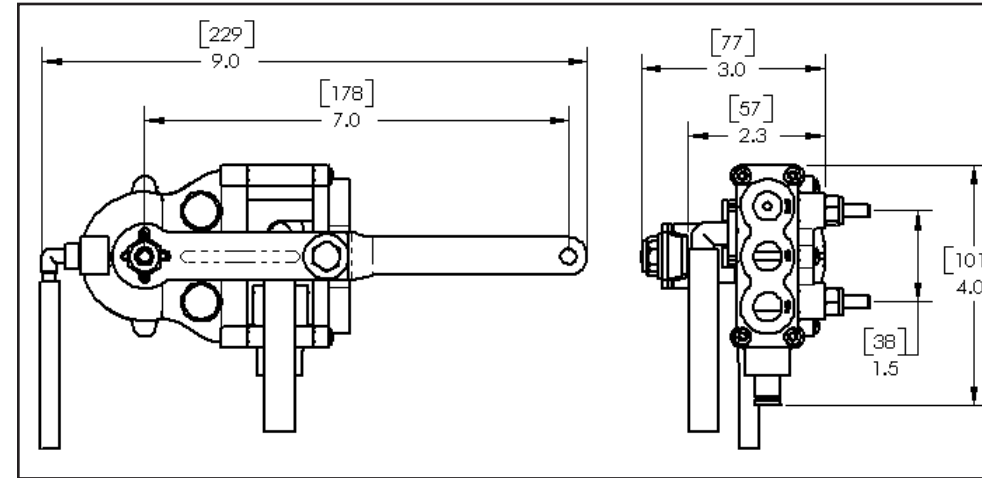

Figure 1. Type PR HCV Reference Dimension Details
- Mount the Type PR HCV on the frame rail or a bracket, torque to 35-45 in. lbs. The integral mounting bolts can be used or removed from the valve and replaced with different fasteners without effecting valve performance. For proper mounting bolt spacing see Fig. 1. HCV(s) should be mounted as level as possible. A small torpedo level or mason's line level can help in this positioning.